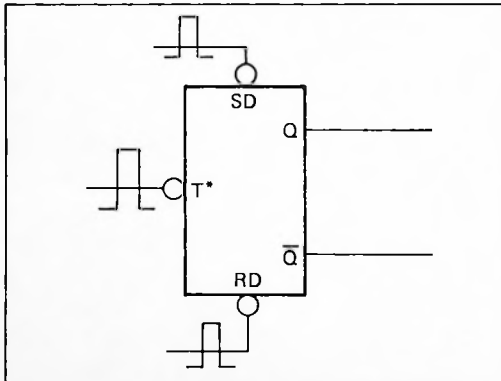

Figure C-7. "T" Flip/Flop Logic Symbol.
g. **"T" Flip/Flop.** As shown in Figure C-7, the "T" Flip/Flop outputs, Q and \bar{Q} , change state each time the trigger pulse at the T (toggle) input transitions from a HIGH (+5 Vdc) to a LOW (GRD). Therefore, a HIGH (+5 Vdc) to LOW (GRD) transition on the toggle input controls the "T" Flip/Flop. A J-K Flip/Flop with J and K inputs tied HIGH (+5 Vdc) also functions like a "T" Flip/Flop. The "T" Flip/Flop may have direct set (SD) and direct reset (RD) inputs, in which case, a HIGH (+5 Vdc) to LOW (GRD) transition on the (SD) lead sets Q HIGH (+5 Vdc). A HIGH (+5 Vdc) to LOW (GRD) transition on the (RD) lead resets \bar{Q} HIGH (+5 Vdc). See "T" Flip/Flop Truth Table, Table C-7.